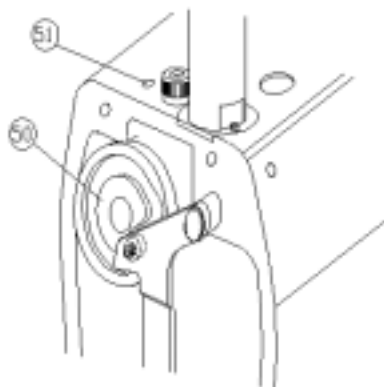

FIG. 20
Keeping the needle bar in the position described above, turn the control cam (50) on its own axis in the direction of rotation of the machine until the tip of the hook is 1 mm higher than the tip of the needle. The clamping screws are accessible from the hole (51) in the upper part of the arm. FIG. 20. Before fully tightening the cam controlling the movement of the hook, bit into contact with the roller and then move bottom of the cam track.